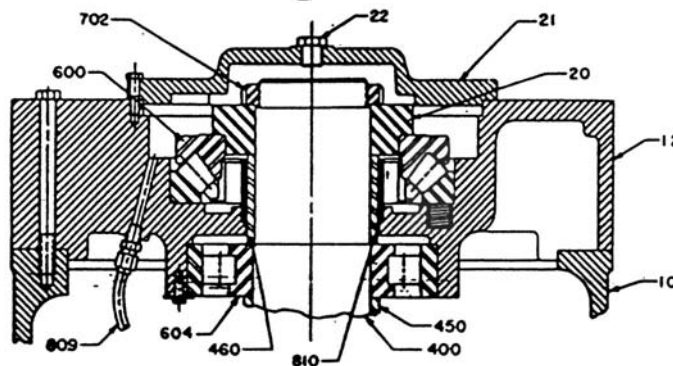

Figure 5
- 2.4b For S, SS, SH, or SSH models using a spherical roller thrust bearing (see Figure 5), use the following procedure.